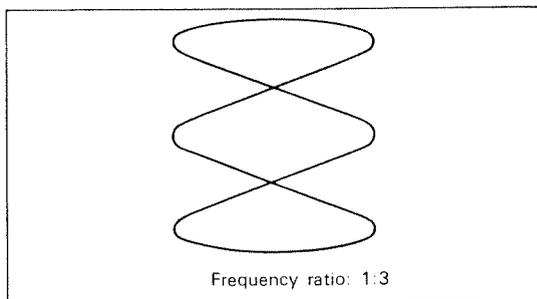

Fig. 5-11. Lissajous' figure example
2. Measurement of Lissajous' figures (Ex. Fig. 5-11). (Set the sweep range to RTTY/EXT, and connect an audio generator, as an external sweep source, to the horizontal input terminal.)